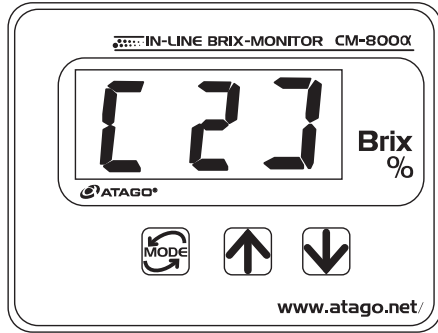

Fig.13-1
Fig.13-1 lists the temperature correction values for temperatures between 15 to 40°C.
Press the  key again and the display will change to [2] (Fig.13-1).
- ⑥ Pressing the  key sets the adjustment of the temperature correction factor and the display returns to [2] (Fig.13-1).
- ⑦ Each time the  key is pressed, the menu item displayed switches in the order of: [3], [4], [5], and Brix(%).